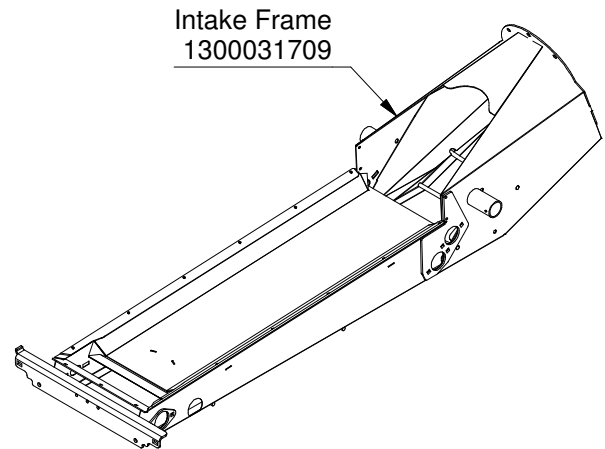
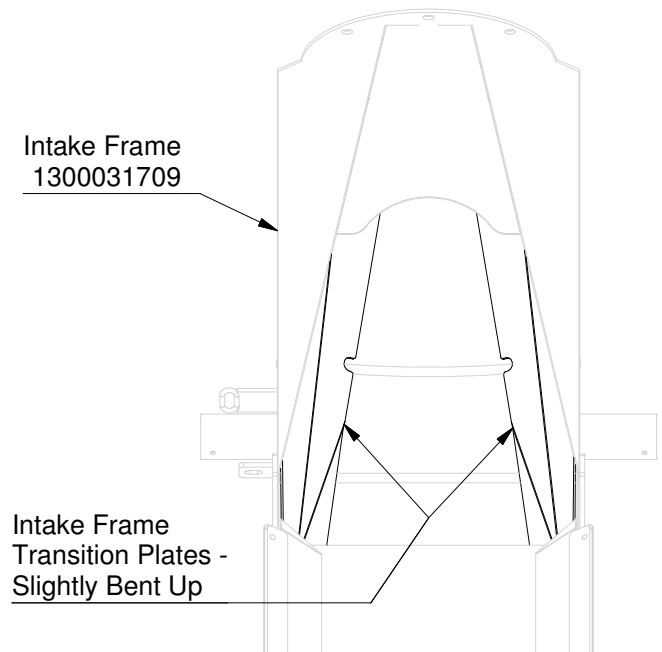

FIGURE 1A
FIGURE 1B
1. The Transition Plates welded on the interior sides of the Intake Frame need to be adjusted slightly to fit the Intake Bottom Pan Plate. Lightly Bend Up the Transition Plate Ends so the Intake Bottom Pan Plate will fit underneath. See Figure 1A and Figure 1B.